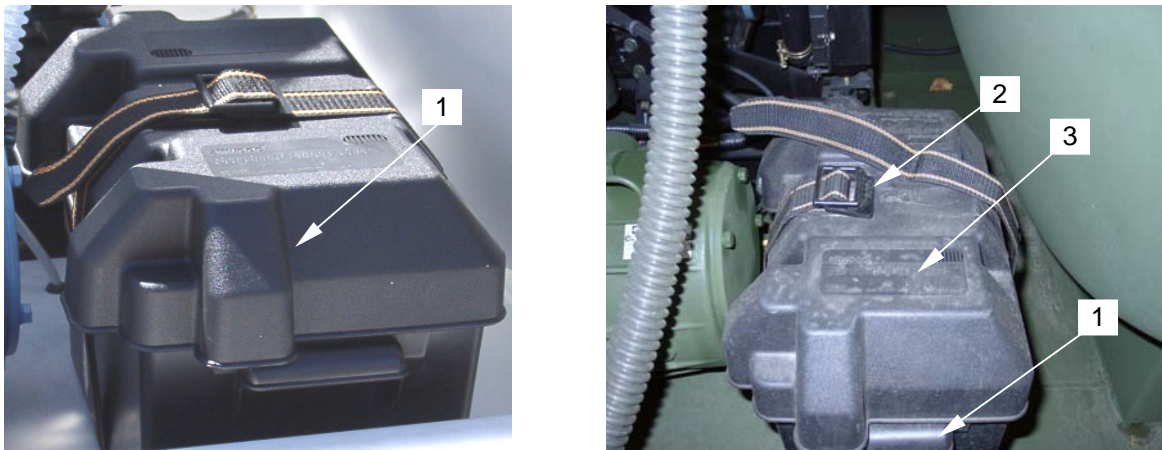

Figure 1. Unbuckling Battery Box Strap
1. Locate the battery box (**figure 1, item 1**) and unbuckle the strap (**figure 1, item 2**) securing the lid (**figure 1, item 3**) to the box.
2. Remove the lid (**figure 1, item 3**) from the box (**figure 1, item 1**).